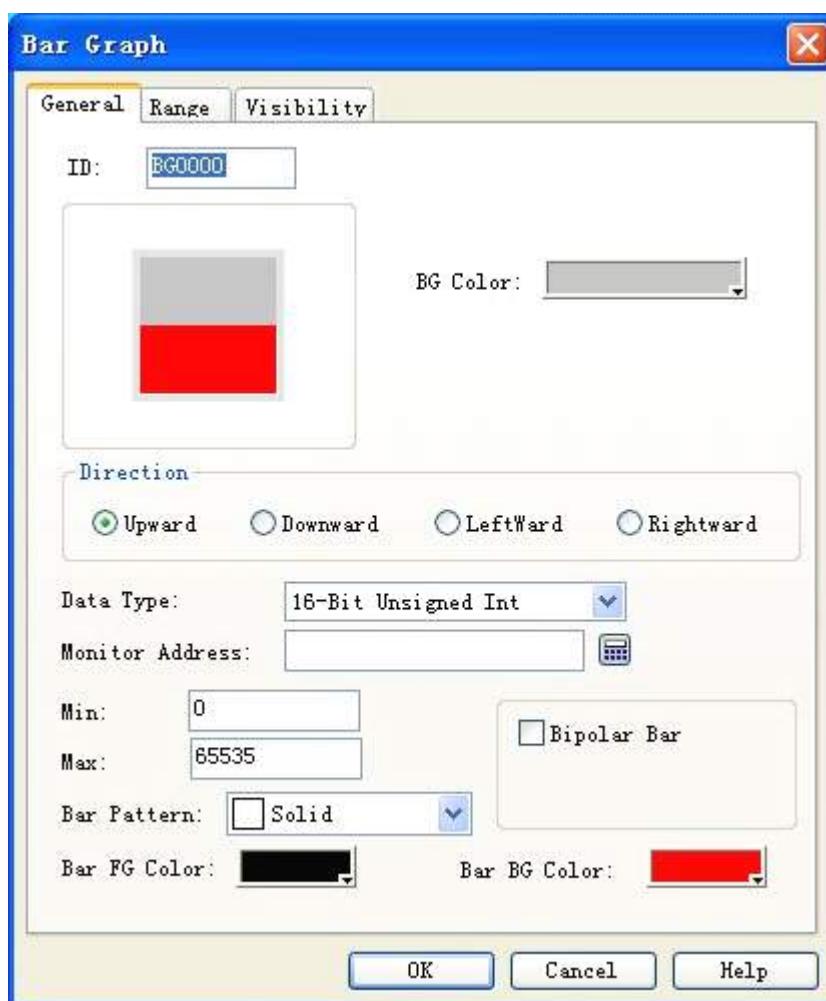

Figure 4-80: Bar Graph dialog
1. Click Bar Graph icon  in the tool bar or the Bar Graph command in Tool menu, and then a dialog as shown in Figure 4-80 will appear.